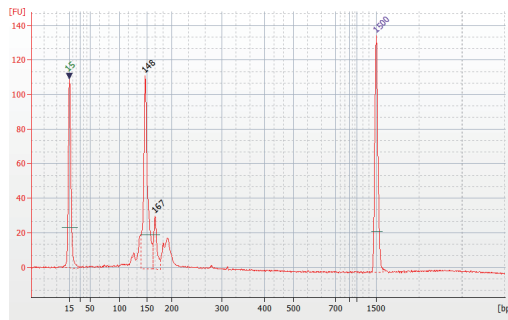

Fig 4. Agilent 2100 trace of the bead size-selected small RNA library prepared from 1 µg of mouse liver total RNA.
12. Library QC (Agilent 2100 Bioanalyzer): Analyze 1 µl of the size-selected purified PCR product with the Agilent DNA 1000 chip or Agilent high sensitive chip. The traces of good libraries should be as shown in Fig 4, and the corresponding miRNA library band is at 147 - 149 bp.